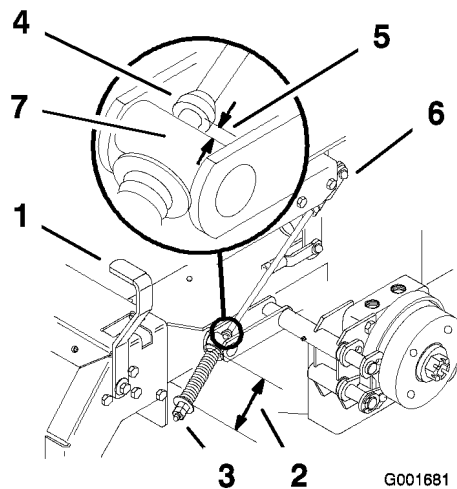

Figure 48
2. Measure the length of the spring; the measurement should be 2-3/4 inch (74 mm) between the washers (Figure 48).
- A. Loosen the jam nut below the spring and tighten the nut directly below the yoke (Figure 48).
6. Measure the distance between the trunnion roller and the collar on the brake rod. The measurement should be 3/16 to 1/4 inch (5 to 7 mm) (Figure 48).
- B. Turn the bottom adjusting nuts until the correct measurement is obtained (Figure 48).